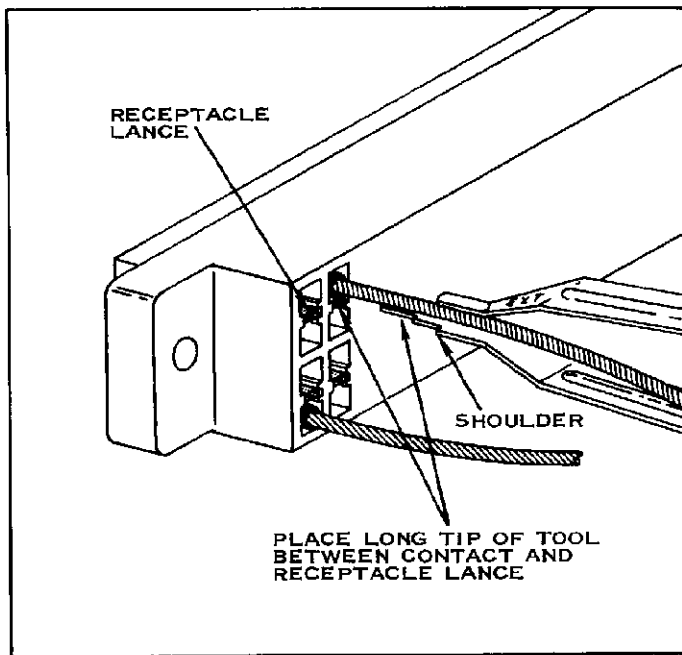

FIGURE 4
1. Straddle the wire with the Tool Tips -- the long Tip aimed to go between the Contact and the Receptacle Lance. Figure 4.